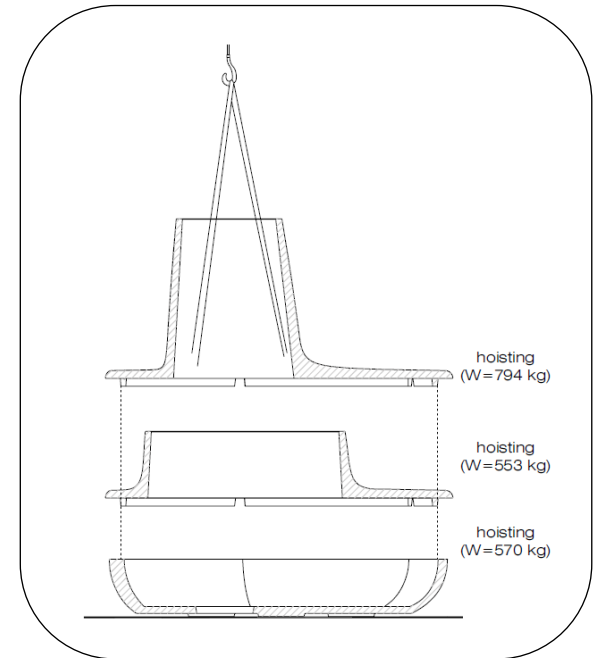

Fig. 2 – Crane install – strap locations
2. Set base in position with proper equipment such as a forklift or crane. See Fig. 2.
3. Lift top of planter onto base, see Fig. 2.